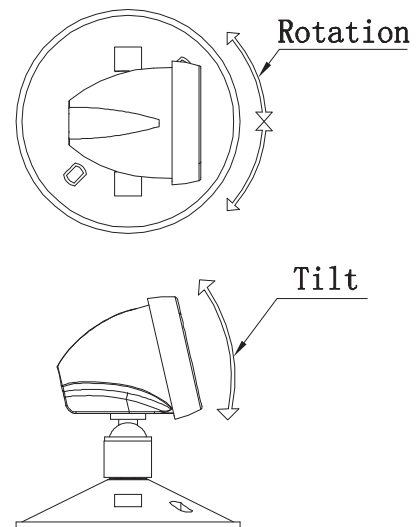

Fig. 2
5.2.2、HEADS ADJUSTMENT (Fig.2)